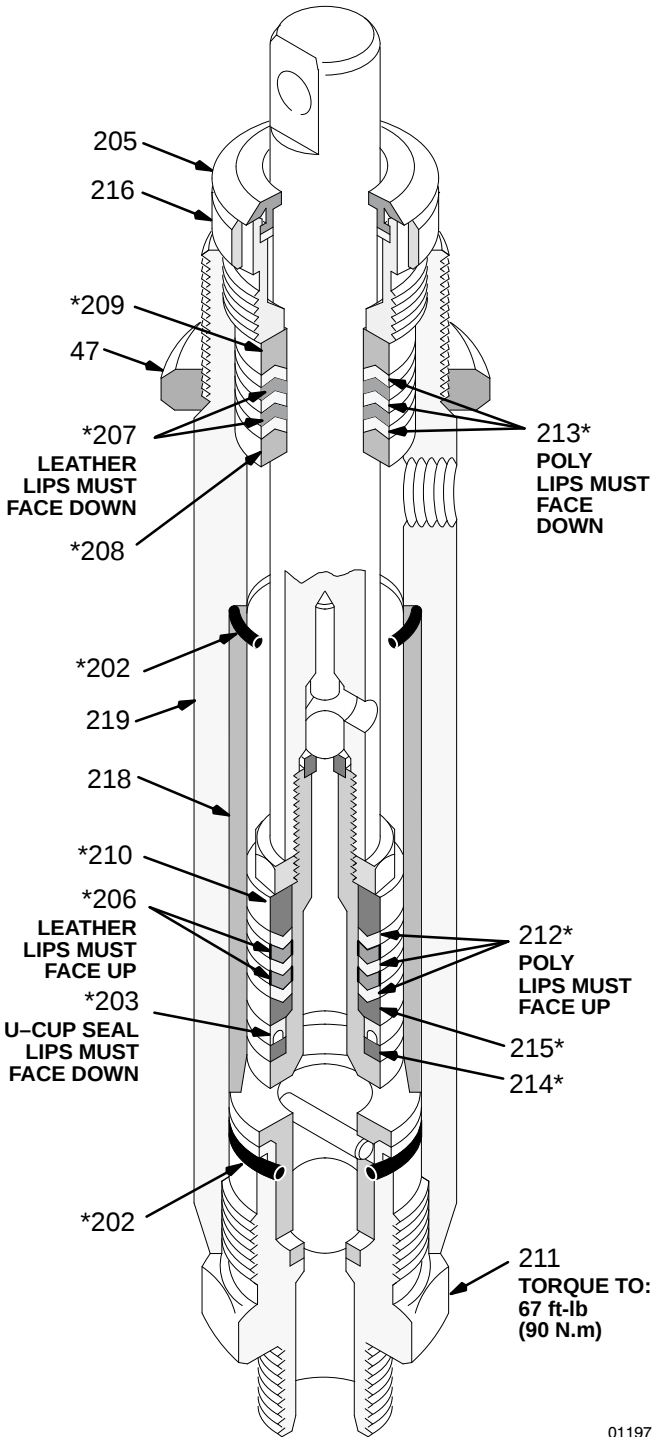
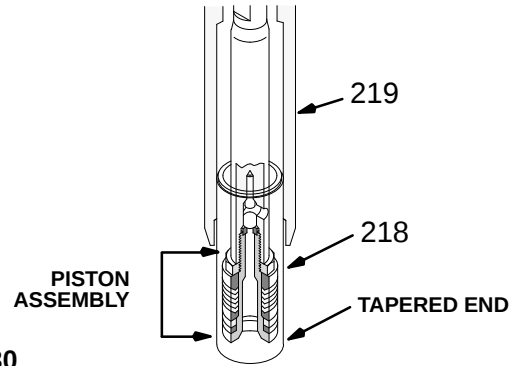

Fig. 29
Fig. 30
8. Stack the male gland (208*), alternate packings (213*,207*), and female gland (9) into the top of the cylinder (219). See Fig. 29.
9. Install the packing nut (216) and plug (205), but leave loose for now. See Fig. 29.
NOTE: The tapered end of the sleeve is the bottom of it. See Fig. 30.
11. Place a new o-ring (202*) firmly in the cylinder groove. See Fig. 29
12. Slide the sleeve/piston rod assembly **INTO THE BOTTOM OF THE CYLINDER**. This is to prevent packing damage during reassembly. See Fig. 30.
13. Screw down the cylinder locknut (47) until it is finger tight at the bottom of the external cylinder threads.
14. Place the flats of the intake valve (223) in a vise. Install a new o-ring (202*). Screw the pump cylinder into the valve. Torque to 67 ft-lb (90 N.m). See Fig. 29.